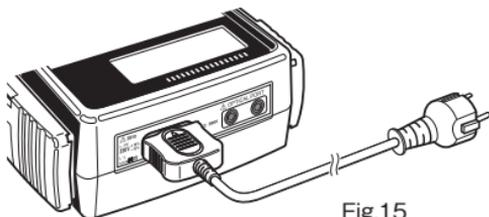

Fig.15
- (1) Insert the Test Lead into the instrument.(Fig.15)
- (1) Insert the Test Lead into the instrument. (Fig.15)